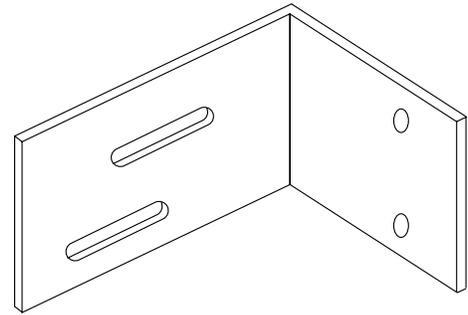

Figure 4
- ③ For jamb mounting, special slotted angle brackets are provided (see Fig. 4).